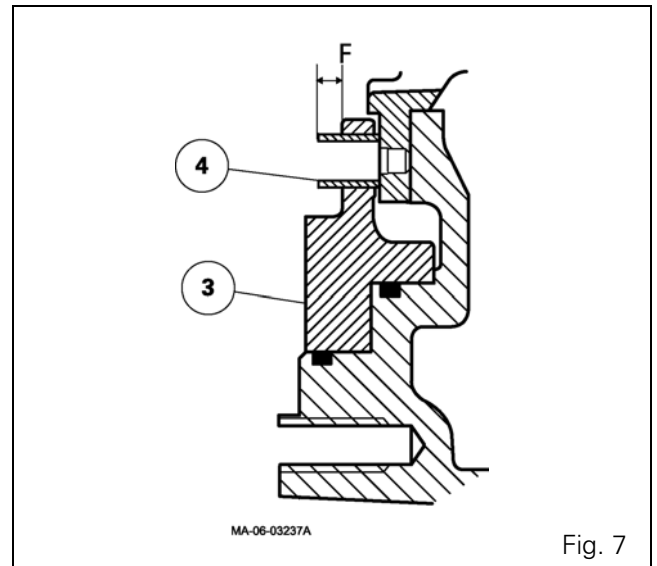

Fig. 7
8. Fit spring pins (4) about 8 mm from machined face "F" of the piston (3) (Fig. 7).